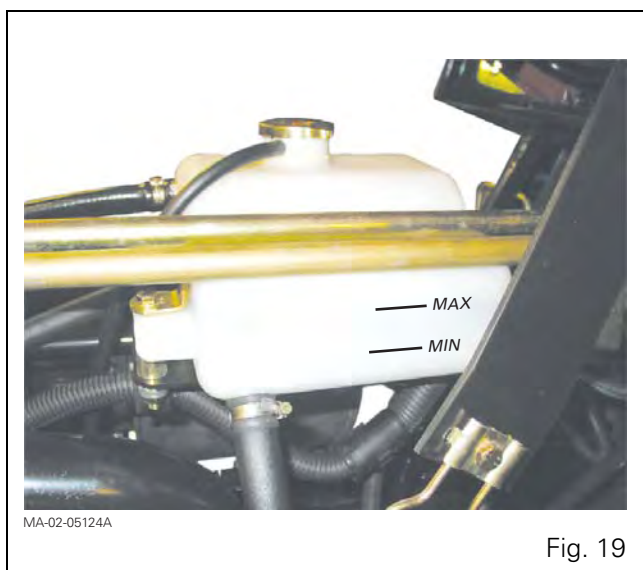

Fig. 19
- top up the **level of coolant**, to the maximum level marked on the expansion tank (Fig. 19);